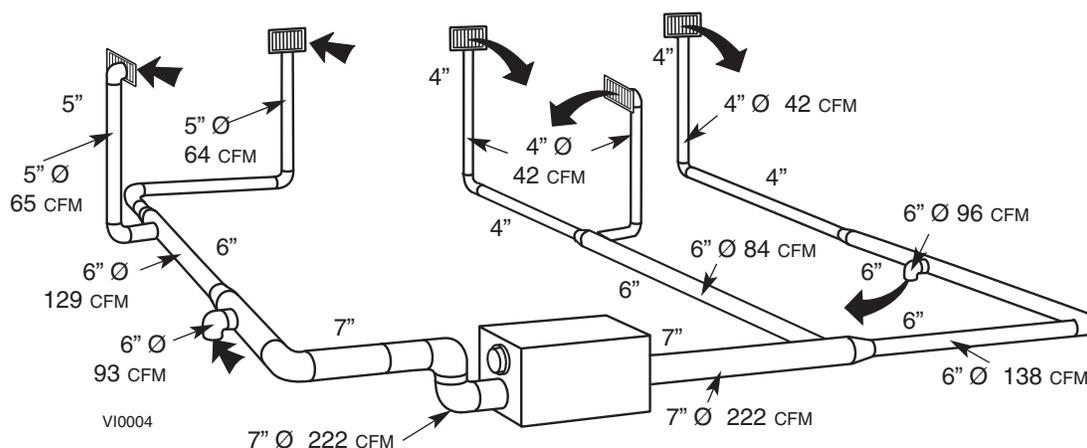

FIGURE 8
5.3.2 Example of a design for a fully ducted system for a unit having 222 cfm high speed performance (See Figure 8).